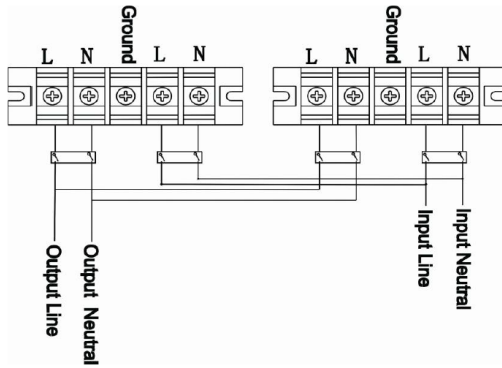
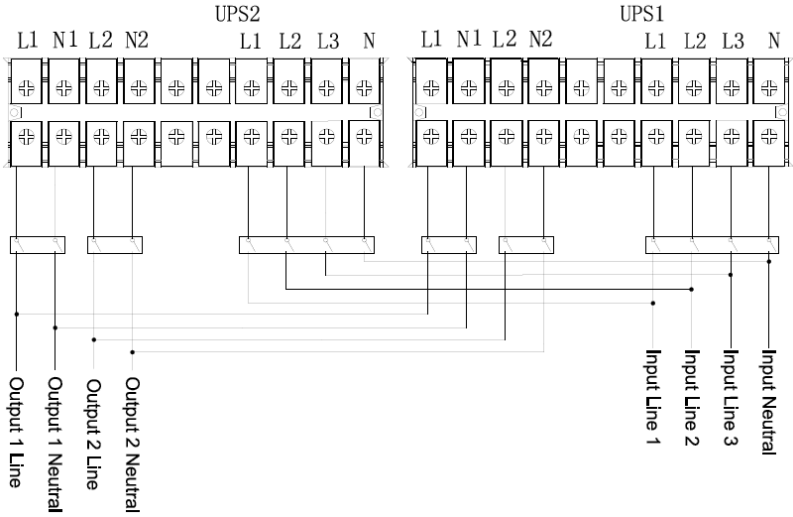

Figure 14: Connection plan for operating two XANTO 6000 / 10000 in parallel
Figure 16: Connection plan for operating two XANTO 20000 3/1 in parallel
1. Connect the inputs and outputs of the UPS systems to the individual circuit breakers (see Figure 14 to Figure 16). Power switches are not included, they are: